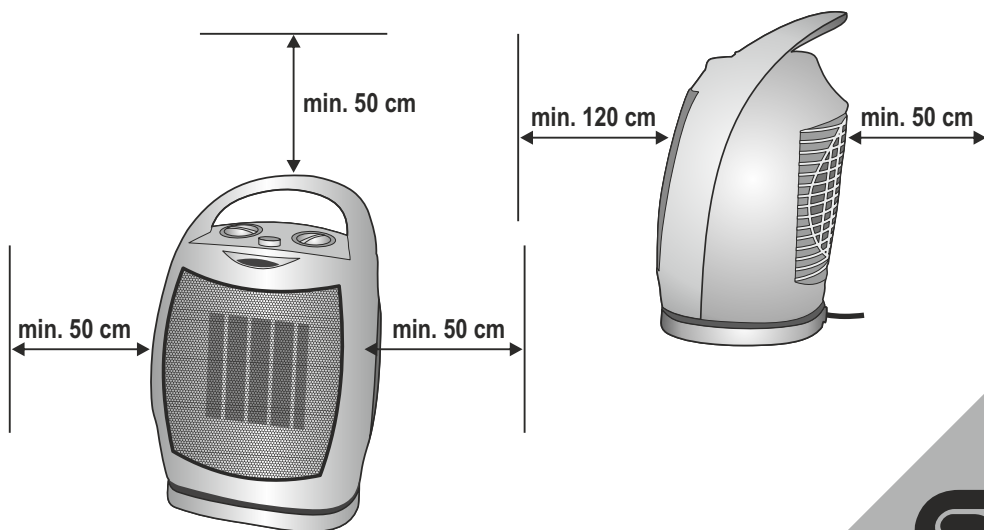

figure 2 • Abbildung 2 • 2. ábra • 2. obraz • figura 2. • 2. skica • 2. skica • 2. obrázek • rys. 2.
2. Never locate the unit directly in corners and observe the minimum mounting distances indicated in Figure 2. Always observe the health and safety regulations valid in the country of use.
3. Set the appliance on a stable and horizontal surface. The free flow of warm air must be ensured for proper operation, therefore, please note the minimum installation distances indicated in **Figure 2.**
4. Verify that the unit's mode selector (3) is in the OFF "0" position.